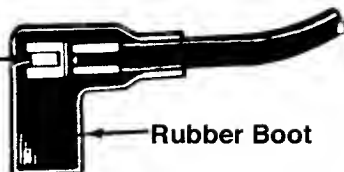

FIGURE 5.
1. Attach spark plug wire to spark plug. If unit is equipped with a rubber boot over the end of the spark plug wire, make certain the metal loop on the end of the spark plug wire (inside the rubber boot) is fastened securely over the metal tip on the spark plug. See figure 5.